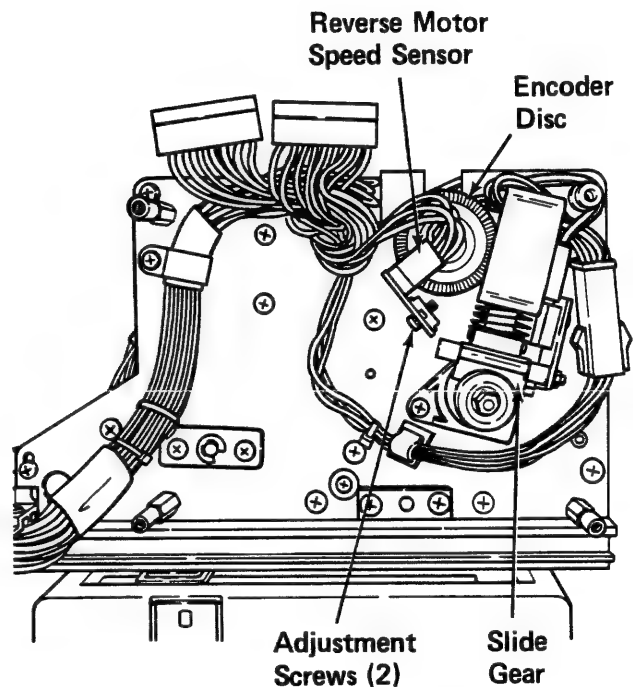

Figure 3-10.2A
8. Manually lift the Slide Gear (Figure 3-10.2A). The Hub should move to the front.
3. Loosen the Adjustment Screws for the Reverse Motor Speed Sensor (Figure 3-10.2A).